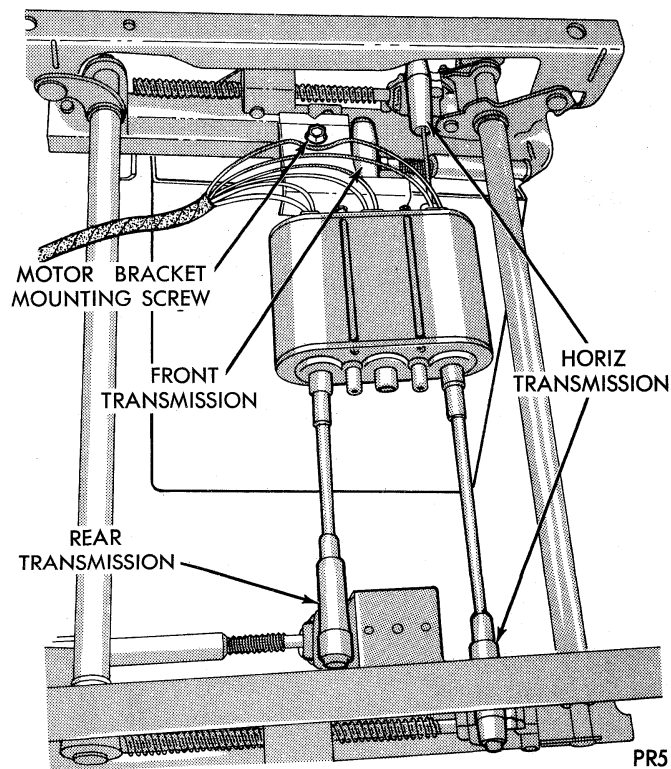
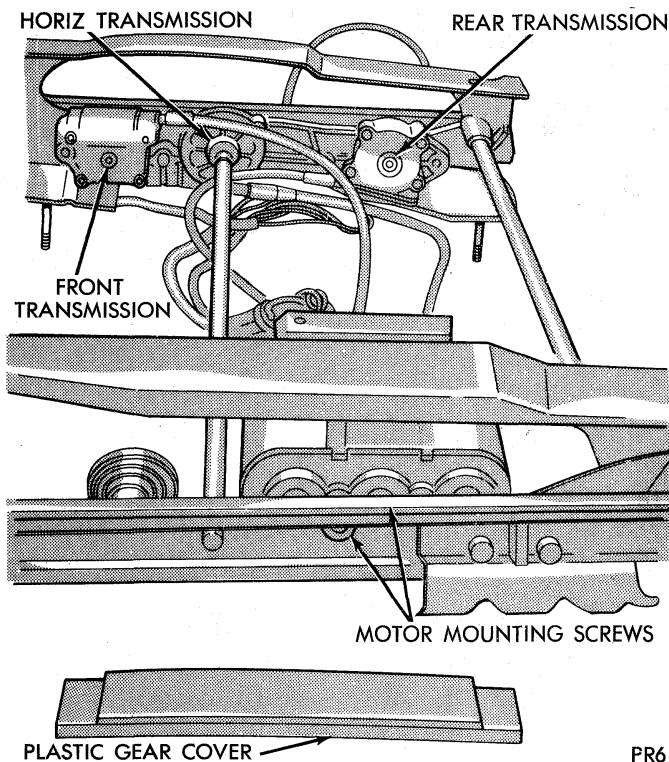

Fig. 3—Seat Track Identification "C" Body 50/50 Seat
Fig. 4—Seat Track Identification All Except "C" Body 50/50 Seat
(1) Remove seat assembly from vehicle following procedure outlined under "Seat Assembly and Adjuster."
(2) Lay seat assembly on its back on some clean object.
(3) Remove bolt which holds motor to support (Fig. 3). Then remove mounting (Fig. 4) screws.
(4) Carefully disconnect housings and cables from motor assembly.